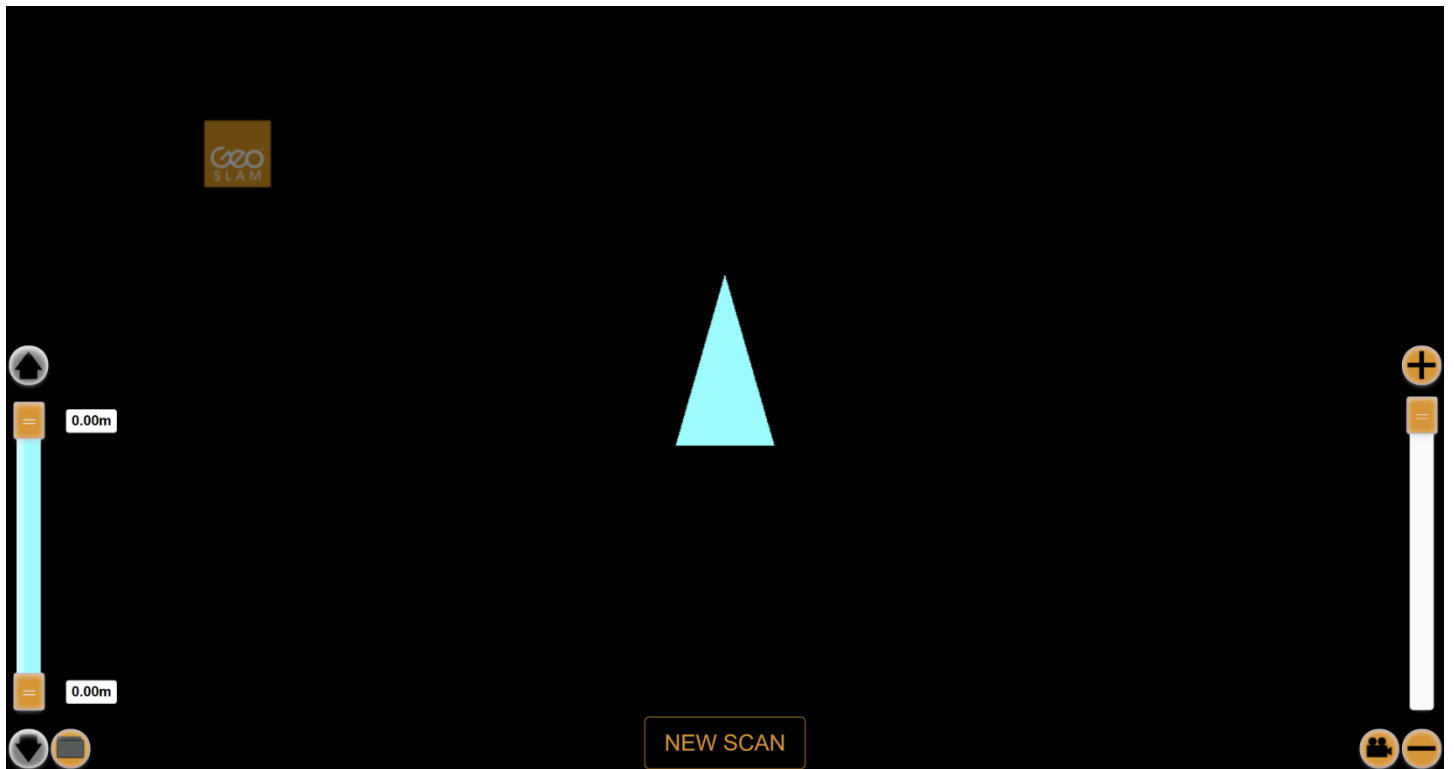

Figure 8-2
Step 4: The GeoSLAM logo will be displayed briefly while the connection is made then the Start screen is displayed (Figure 8-2).